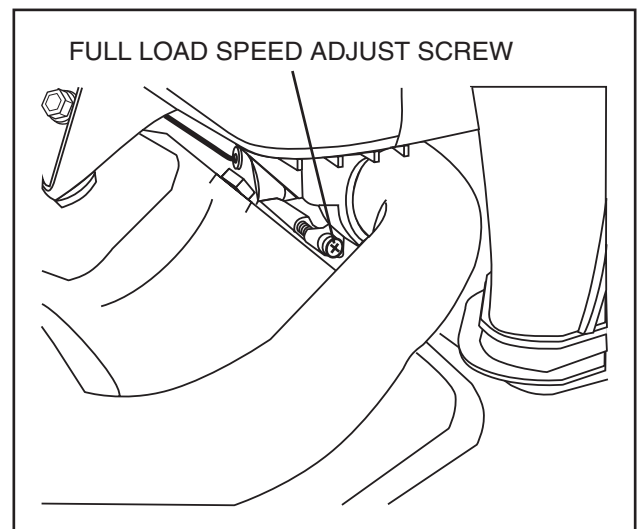

*Figure 9. Engine Governor Adjustment
1. Loosen governor clamp bolt (See Figure 9).